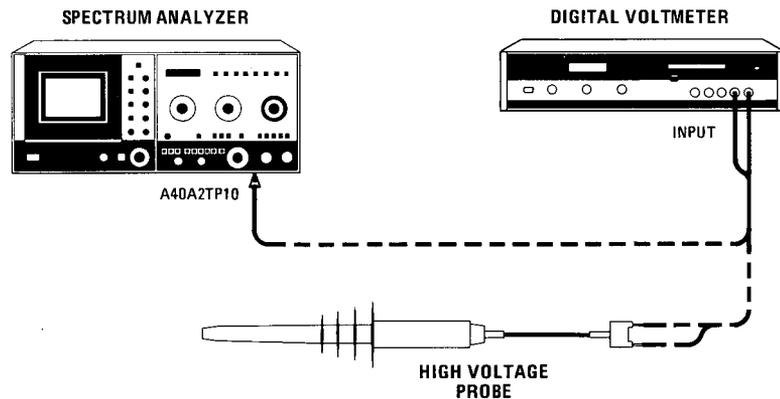

Figure 5-3. High Voltage Power Supply Adjustment Test Setup
- a. Set LINE switch OFF, disconnect power cord, and remove 8565A top and bottom covers. Remove High Voltage Power Supply protective cover. Connect equipment as shown in Figure 5-3.